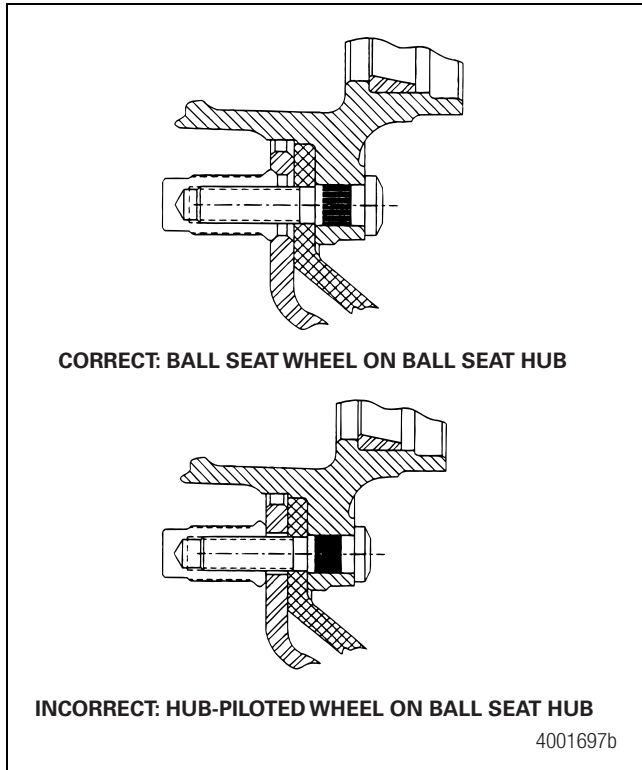
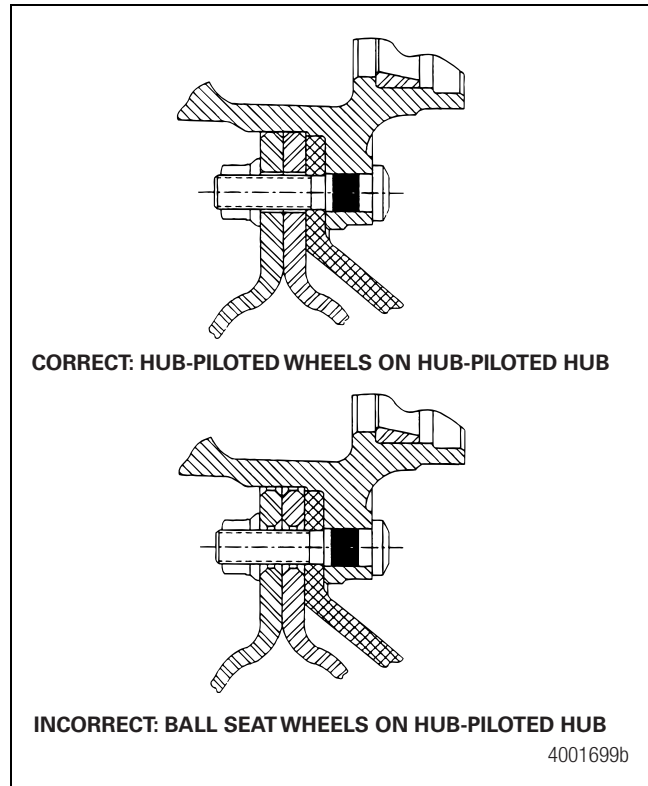

Figure 13.44
Figure 13.45
10. Ensure that the nut and wheel mate correctly. Ensure that you install the correct components onto the wheel systems. Figure 13.44 and Figure 13.45.